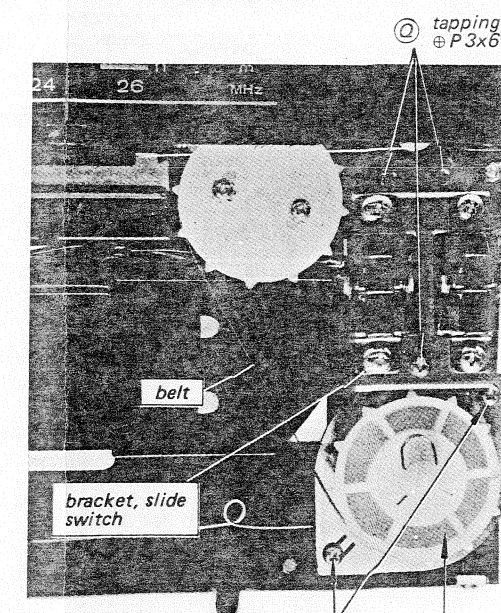

Fig. 2-20.
1. Remove the two screws marked ⑩ in Fig. 2-20 and remove the drive sprocket.
2. Remove the three screws marked ⑪ and take off the slide switch bracket.